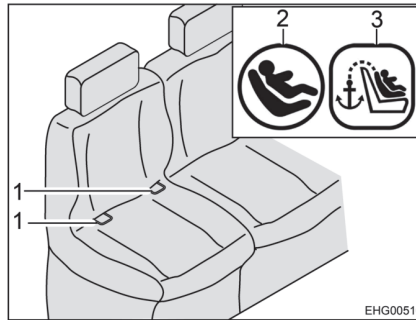
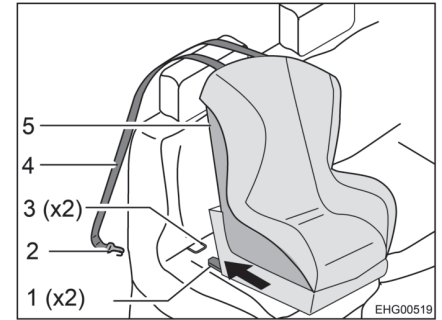

Fig. 11 Seat with ISOFIX
Fig. 12 Fastening with top tether
- Have the connectors (Fig. 12,1) snap into the retaining clips (Fig. 11,1 and Fig. 12,3). While doing this, a distinctive click must be heard.
- With a strong jerk, check if the child seat (Fig. 12,5) is firmly connected.
- Route top tether strap (Fig. 12,4) over the headrest of the vehicle seat.
- Hook the fixing hook (Fig. 12,2) onto the attachment point on the back of the vehicle seat.